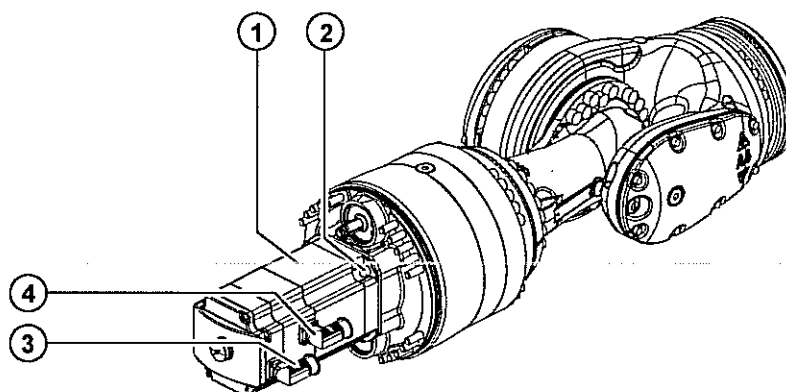

Fig. 12-17: Removing motor A6
1. Remove 4 Allen screws (>>> Fig. 12-17).